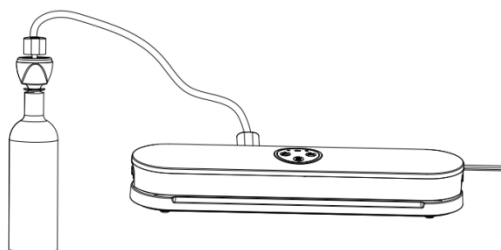

Fig.6
2. Connect the external suction hole of the vacuum sealer and the silicone stopper of the wine bottle with the exhaust pipe. (Note: The connector of the red wine bottle silicone stopper is different from the connector of the vacuum box, you need to change the spare connector of the exhaust pipe for wine bottle.) As shown in Figure 6.